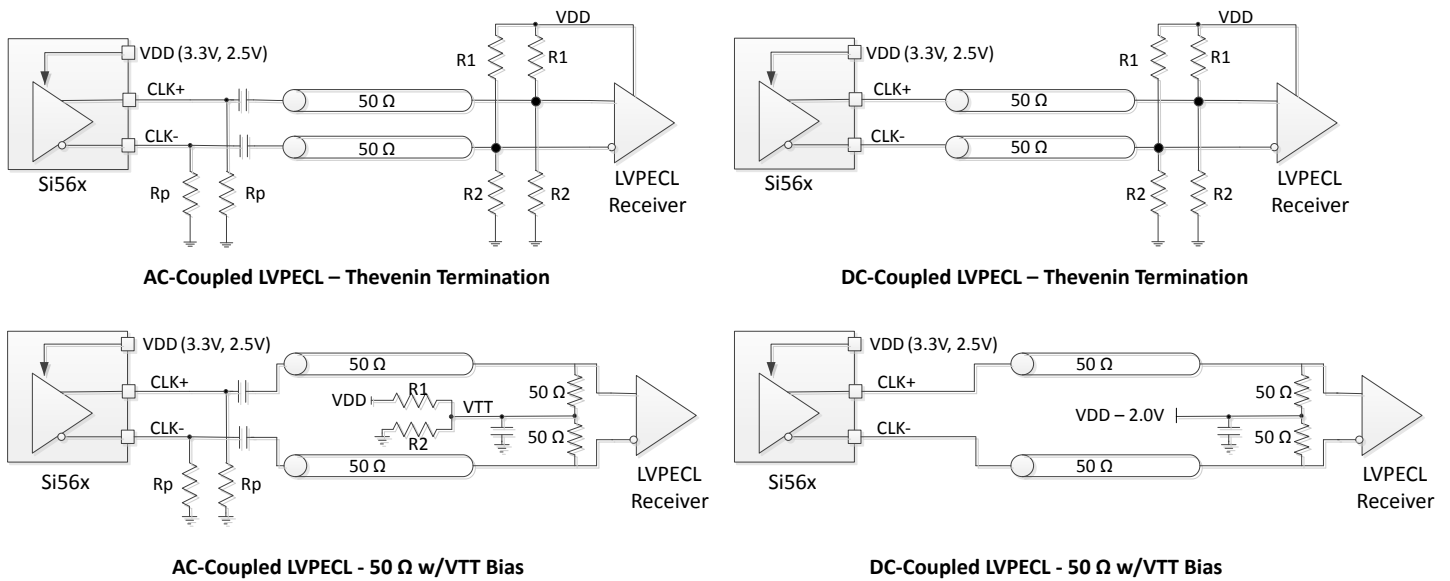

Figure 4.1. LVPECL Output Terminations
3. R_{term} = 50 Ω to V_{DD} – 2.0 V (see Figure 4.1). Additional DC current from the output driver will flow through the 50 Ω resistors, resulting in a shift in common mode voltage. The measurements in this table have accounted for this.